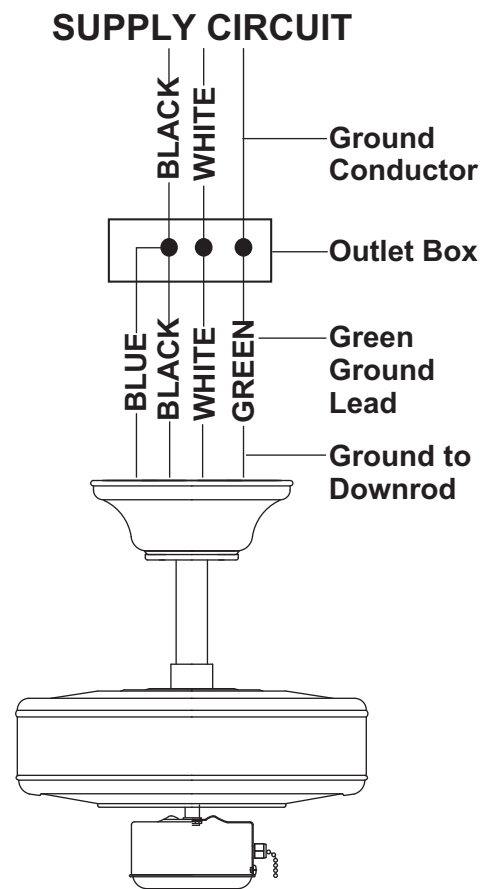

Figure 12
Step 1 Connect the fan supply (black) wire to the black household supply wire as shown in Figure 12.